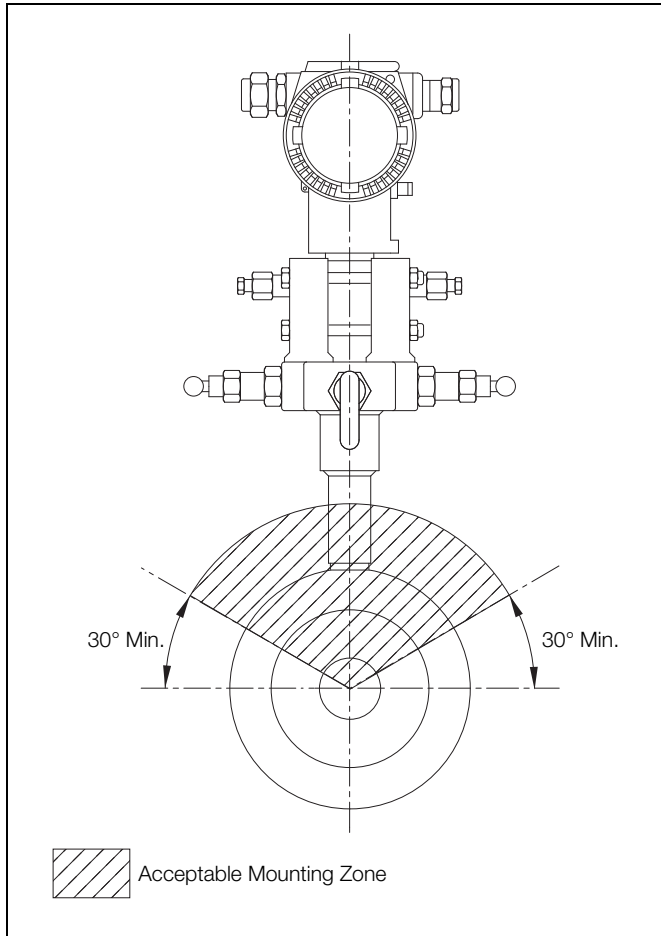

Fig. 2.3 Horizontal Pipe Mounting – Gas
To ensure that condensate drains back into the pipe, mount the meter **above** the pipe, at least 30 degrees above the horizontal – see Fig. 2.3.
- b. The meter is oriented correctly depending on the type of installation – see Figs. 2.3, 2.4, and 2.5.
- for horizontal pipe mounting – gas, refer to Fig. 2.3.